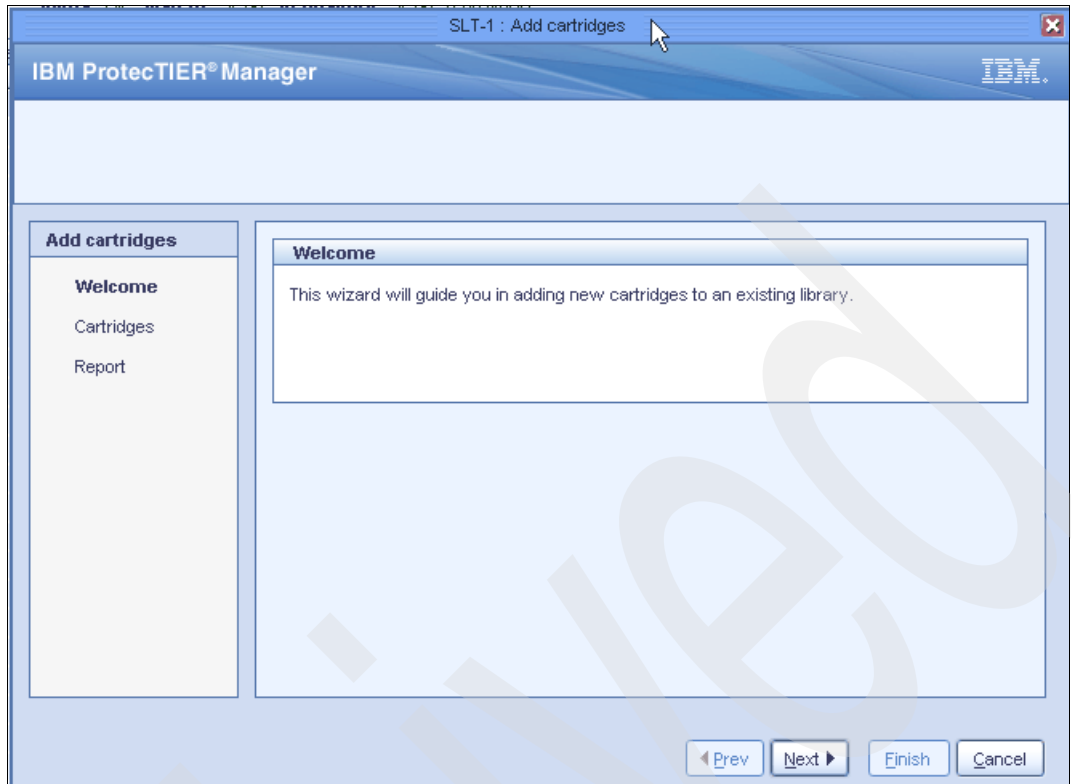

Figure 8-21 Add cartridges
4. The Add cartridges wizard Welcome panel is displayed (Figure 8-21 on page 207).